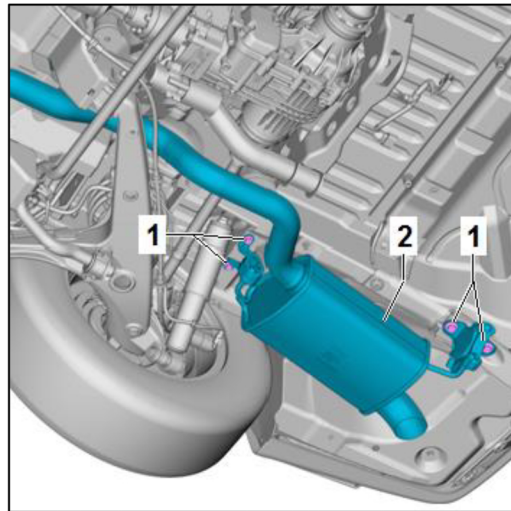

Fig 14: Attachment of the rear silencer
35. Support the standard silencer -2- with suitable materials and remove the fixing bolts -1- of the standard brackets (Fig. 14).